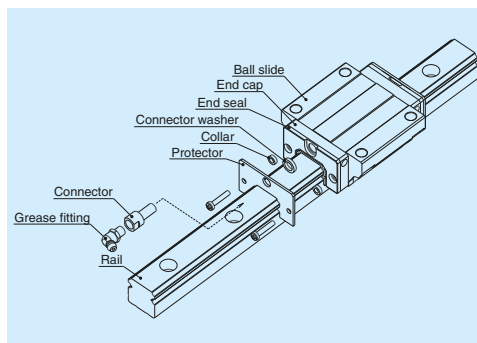

Fig. 7.3 Protector
(2) Protector
- Attaching a grease fitting to the end cap after the protector is equipped requires the connector shown in **Fig. 7.3**. Please specify the connector set when ordering linear guides.